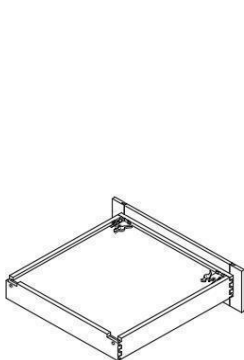

Figure5
5. **Installing the corner braces and assemble the parts of Drawer Box(Figure5).**